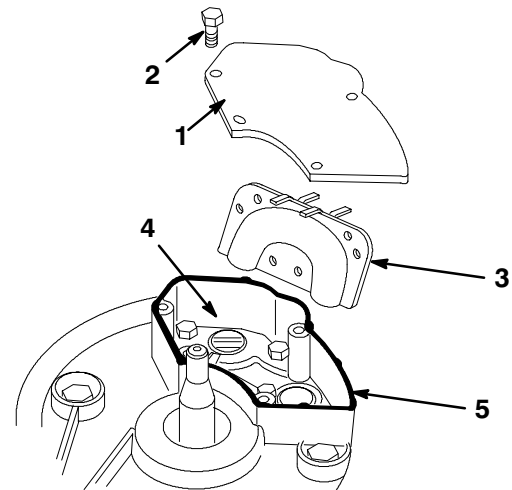

Figure 35
6. Remove the four capscrews that attach the cover plate to the engine mounting plate (Fig. 35).
7. Remove the transfer pipe (Fig. 35).
8. Rotate the crankshaft slowly until the piston covers the exhaust port (Fig. 35).
12. Run a bead of high-temperature automotive silicone sealant along the edge of the engine mounting plate where the cover plate will rest (Fig. 35).
13. Install the transfer pipe and cover plate (Fig. 35), torquing the four capscrews to 75 in-lb (8.5 N·m).